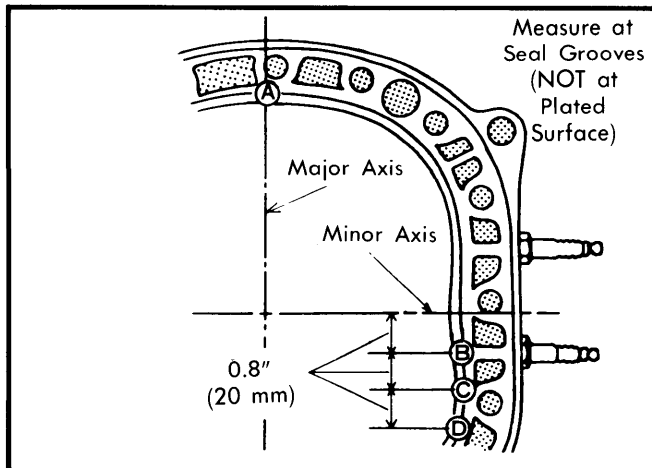

Fig. 10 Rotor Housing Thickness Check Points
4) Check rotor housing thickness at points A, B, C, and D in Fig. 10. If micrometer readings vary between point A and minimum value for B, C, and D by more than  $.0024''$  (.06 mm), replace rotor housing.
3) When installing new apex seal, check gap between seal and side housing. Measure length of seal with micrometer and subtract length from rotor housing width at point A, (Fig. 10). Clearance should be  $.0051-.0075''$  (.13-.19 mm). If seal length is excessive, correct with emery paper. Check seal spring height at least  $.22''$  (5.5 mm).